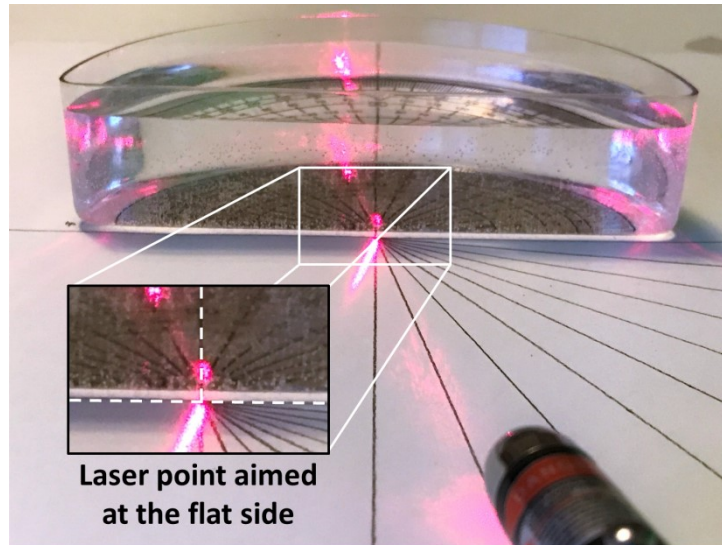
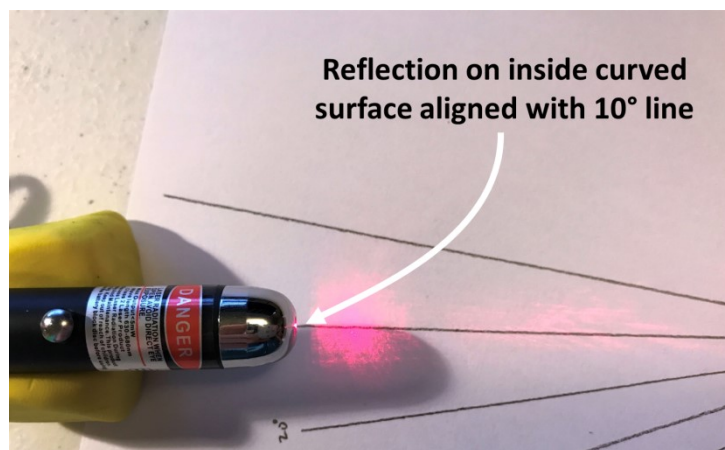

Fig. 5: Laser aimed at the side of the plastic semi-disk.
Fig. 6: Laser pointer is centered over the 10° line. You can see that the reflection on the inside edge of the pointer hole is centered over the line.
3. Adjust the angle of the pointer (up/down) so that the laser dot enters the semi-disk just above the curved, bottom surface (so that it travels through the water and not the plastic). Center the dot above the perpendicular line (see Fig. 5).
4. Adjust the position of the laser pointer side to side until you can see from above that the laser is centered over the 10° line (see Fig. 6). Make sure the dot on the glass is still centered over the perpendicular line, as in Fig. 5.